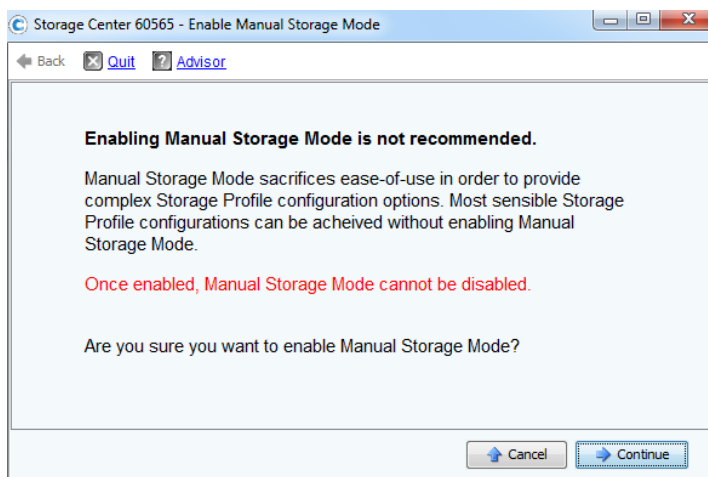

Figure 28. Enable Manual Storage Mode
3. Click **Continue**, as shown in Figure 28.